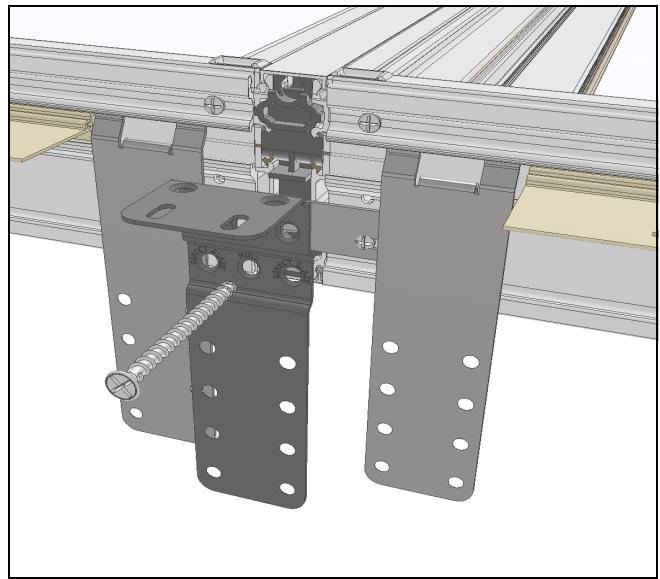

Figure 14 At sill
8. For mulls with MRF: To install jamb and head jamb brackets. Place a bead of construction adhesive on either side of the mull within 1-1/8" from the center. Apply a 90° bent structural bracket in the same location, securing with 5/8" screws in outside holes. See Figure 14. Apply a third bracket between the first two centered on the mull plug screw slot and fasten with a 2-1/2" Spax screw through the middle bracket hole into the mull pin.